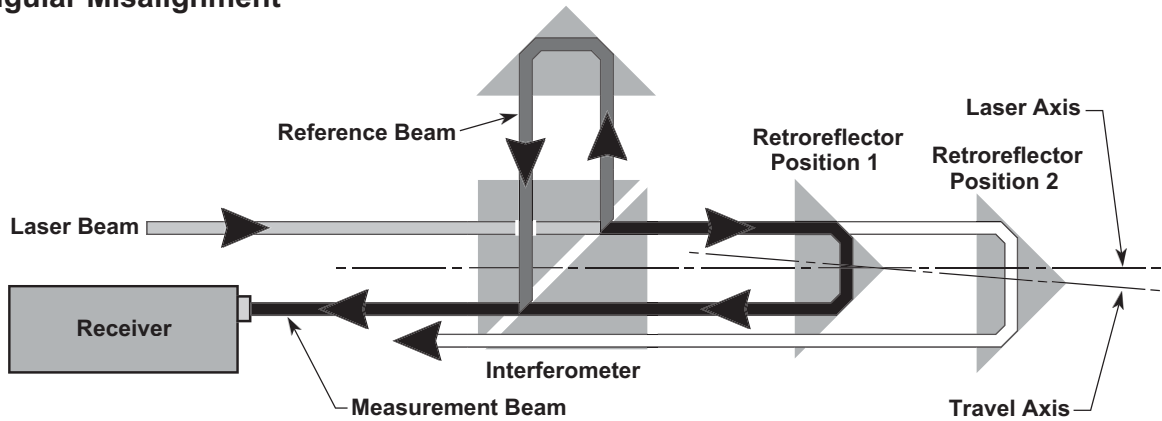

Figure 265 Effects of Angular Misalignment to the Direction of Travel
- Second, when movement occurs between the optics, the angular misalignment also causes a lateral displacement of the measurement beam with respect to the reference beam at recombination, resulting in additional signal loss. Figure 265 illustrates the result of angular misalignment.